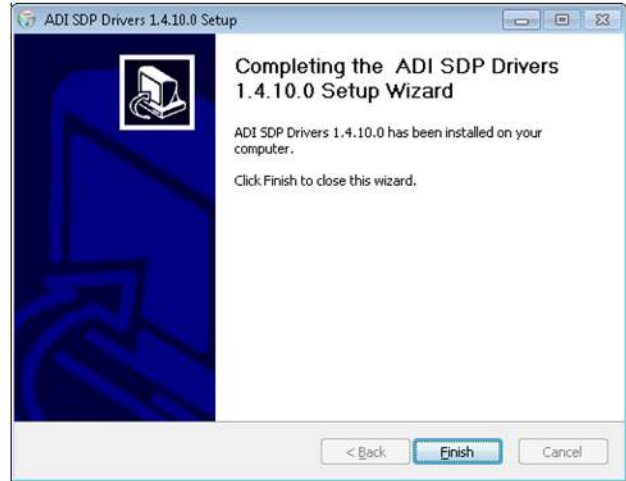

Figure 4. Finish Installation
5. Click **Finish** to install the SDP drivers on the PC (see Figure 4).